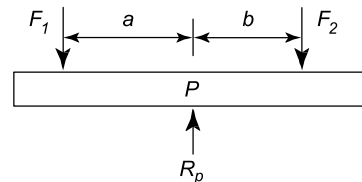

Figure 6.3
Figure 6.3 shows a beam with its support (known as its **pivot** or **fulcrum**) at P , acting vertically upwards, and forces F_1 and F_2 acting vertically downwards at distances a and b , respectively, from the fulcrum.
- (i) The sum of the forces acting vertically downwards must be equal to the sum of the forces acting vertically upwards, i.e. for Figure 6.3, $R_p = F_1 + F_2$
This statement is known as the **principle of moments**. Hence, taking moments about P in Figure 6.3,